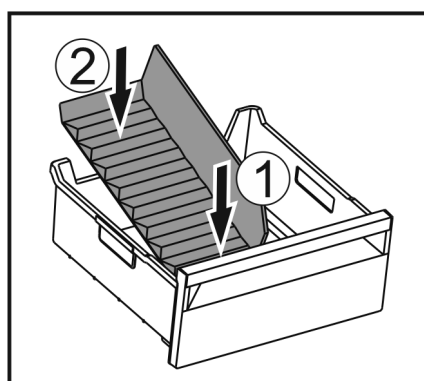

Fig. 118
- Insert the front part of the ice compartment divider. Fig. 118 (1)
- Lower the rear part of the ice compartment divider to the drawer bottom. Fig. 118 (2)